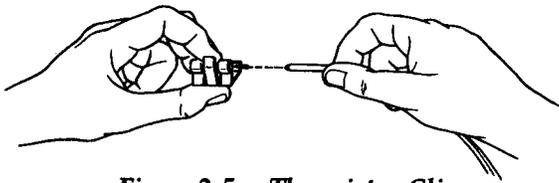

Figure 2-5. Thermistor Clip
7. If necessary, slide the yellow lead of the fan assembly power cable containing the thermistor into the thermistor clip (Figure 2-5).